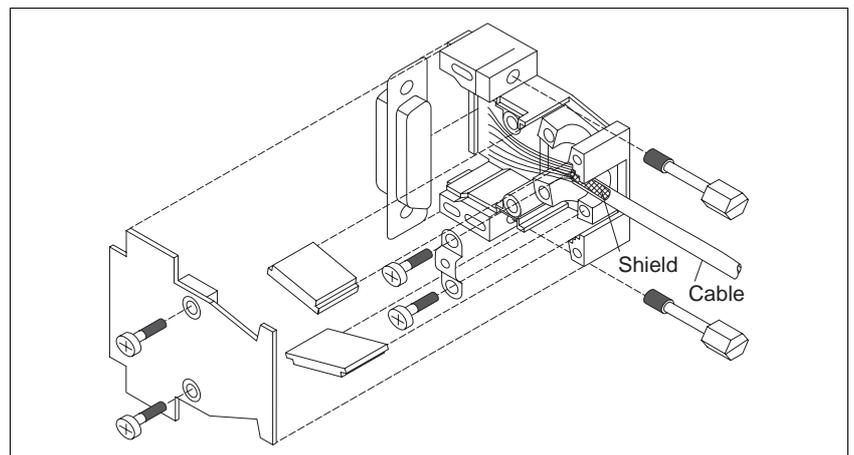

Fig. 2-9 Signal connector assembly – device end
3. Insert two hexagon head screws into the connector shell (fig. 2-9).
8. Fasten the connector to the front panel (item 57) with screws.